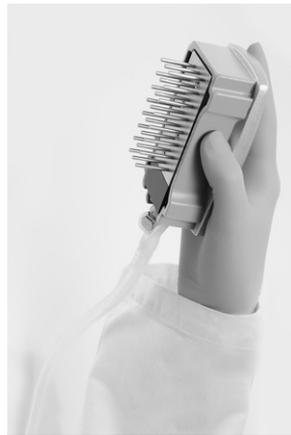

Figure 3. Illustration of the vacuum tool raised to beyond 90° vertical.
9. **Raise the vacuum tool up and back, beyond 90° vertical, for 5 seconds to drain liquid from the filter probes (Figure 3).**
14. **Raise the vacuum tool up and back, beyond 90° vertical, for 5 seconds to drain liquid from the filter probes (Figure 3).**
- 15. Close the vacuum switch on the vacuum tool (Off), and place the tool in the Parking (P) position.**